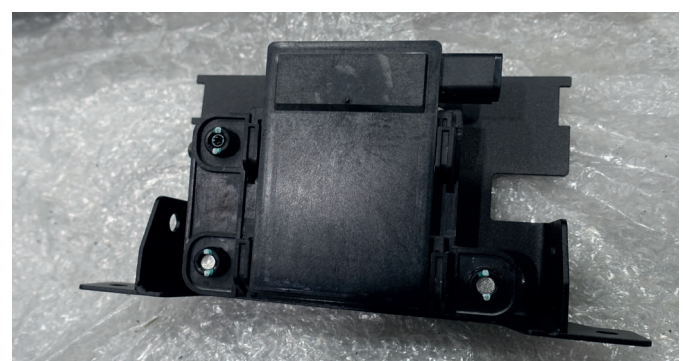

Fig.55
52. Fix the factory radar on the radar bracket (item 2) (fig.55).